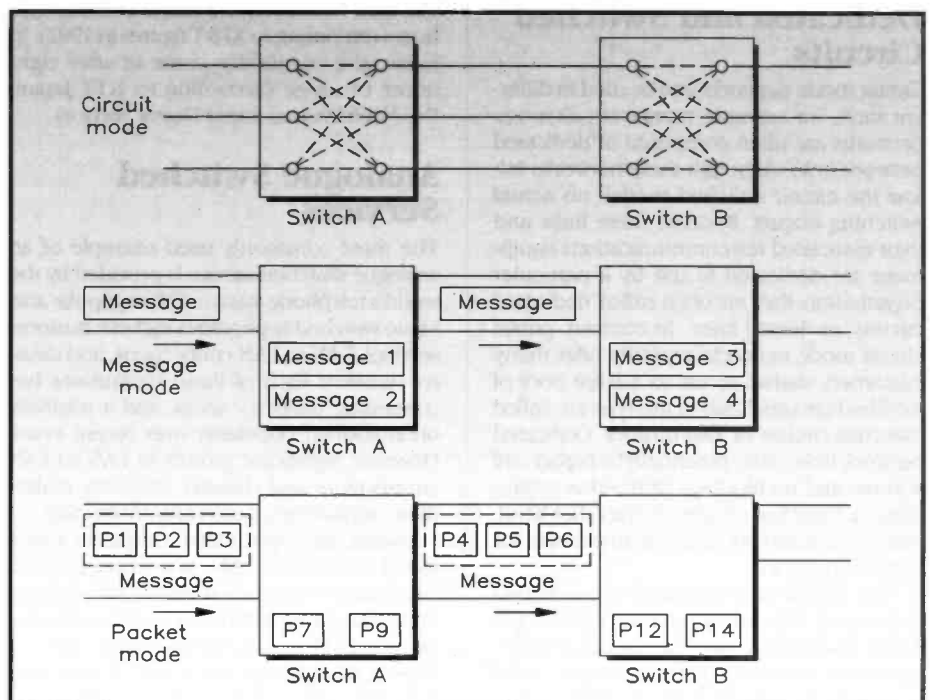

Figure 1. Three Types of switched network.
**I**NTER-NETWORK communication is accomplished through the three primary switching technologies of circuit, message, and packet switching. In circuit mode networks, each circuit is dedicated to a predetermined number of users during the usage period. The telephone system is the most frequently cited example of a circuit mode switching network. In message mode networks, circuits are shared on an ad hoc basis, and entire messages are stored at intermediate nodes en route to their destinations – telex networks use message mode switching. Packet mode networks use the same circuit-sharing principles as message mode networks, but large messages are broken into smaller packets for more efficient and flexible transfer. Most of the popular local area networks (LANs) in use today are based on packet mode switching. The three types of inter-network communication outlined here are shown in Figure 1.